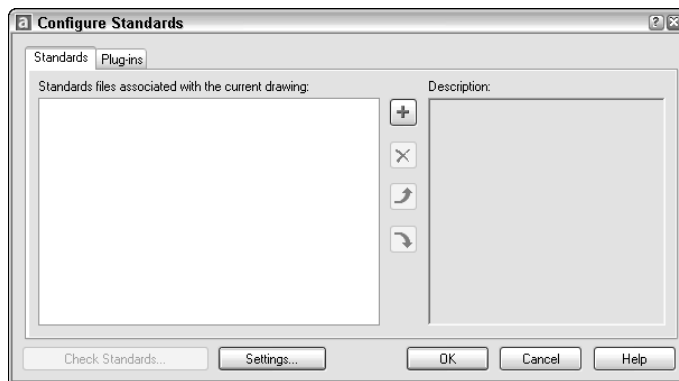

Figure 26-12: Use the Configure Standards dialog box to associate a standards file with a drawing.
2. On the Standards tab of the Configure Standards dialog box, shown in Figure 26-12, choose the + button.